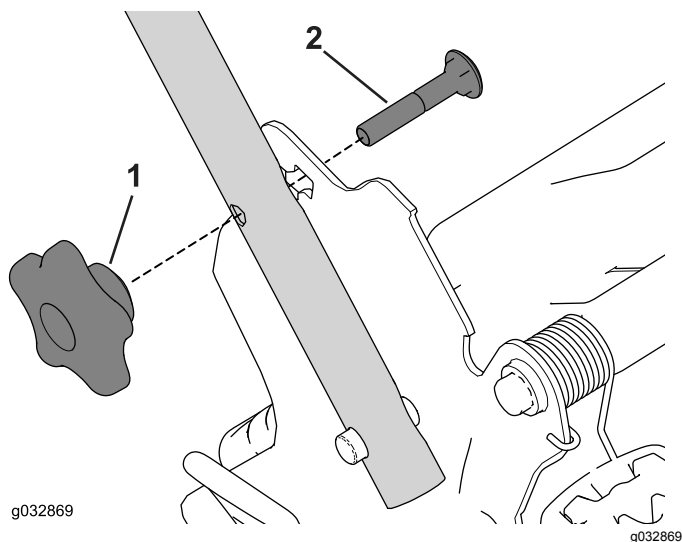

Figure 20
1. Remove and save the 2 handle knobs and 2 carriage bolts from the handle brackets (Figure 20).